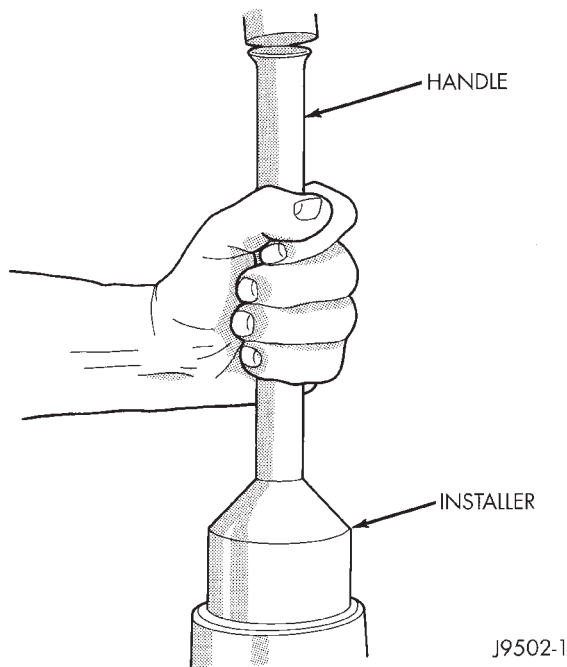

Fig. 31 Pinion Seal Installation
(3) Install pinion front bearing, oil slinger. Apply a light coating of gear lubricant on the lip of pinion seal. Install seal with Installer D-163 and Handle C-4171 (Fig. 31).